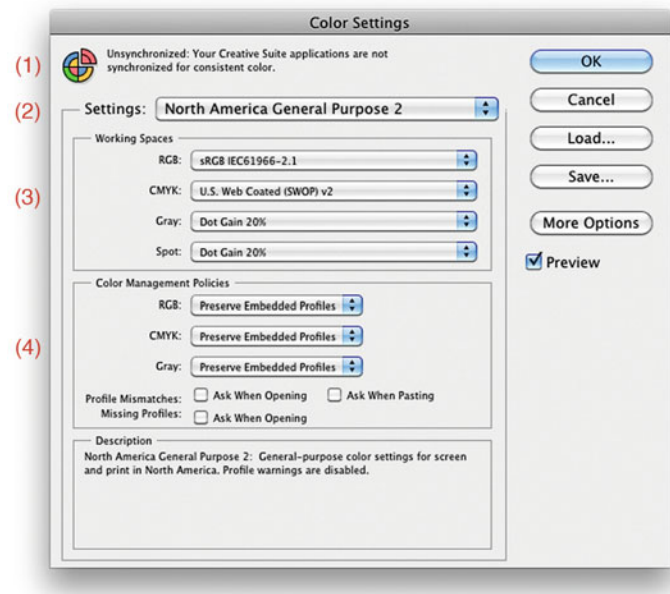
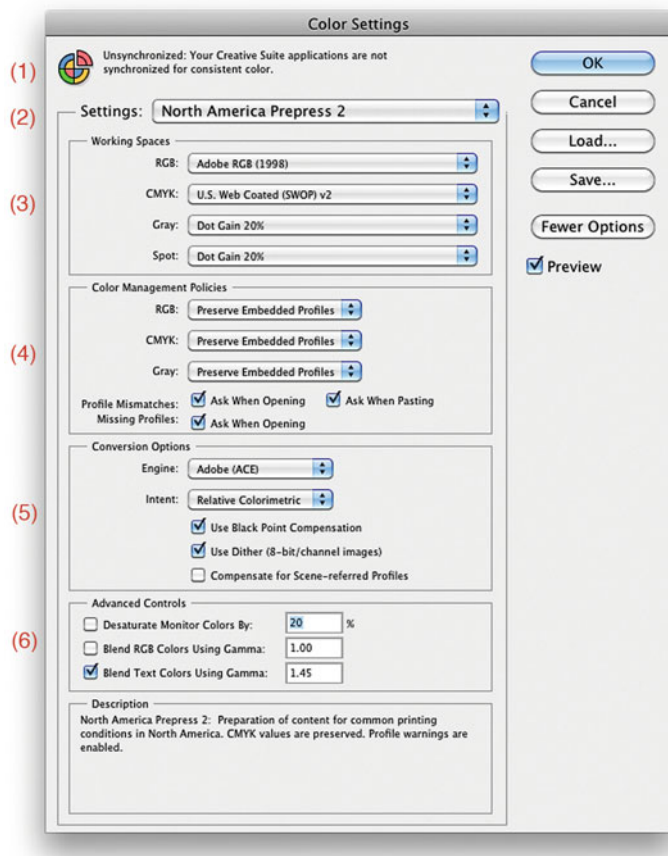

FIGURE 6.2 Default Color Settings in Adobe Photoshop – Few Options view.
FIGURE 6.3 North America Prepress 2 Color Settings in Adobe Photoshop – More Options view.
The **Color Settings** in all the *Adobe Creative Suite* applications, including Photoshop, but not Lightroom, control how color is handled in opening, pasting, viewing, and saving files and images. To launch the Color Settings window in Figure 6.2, go to the Menu bar in Photoshop and select Edit > Color Settings. With your choice of color settings, you determine the default working color spaces, the way color management is handled, and the way color conversions and mode changes are completed.
2. Next is a pull-down menu, which gives you a series of standard groups of color settings. Figure 6.2 shows the default settings, which are called **North America General Purpose 2**. If we alter any of the individual settings, this designation will change to **Custom**. Figure 6.3 shows these default settings changed to **North America Prepress 2**, which can be better settings for us
Did you know that Photoshop gives you the ability to create your own custom RGB color space? I'm not saying you should, because most probably you're going to be better off with one of the standard RGB working spaces, but you can. This ability in Photoshop is where color spaces like BruceRGB, JoeRGB, and TomRGB (no relation) have come from. How do you do it? With the **Color Space** window in the **More Options** mode, as in Figure 6.3, click on the **RGB** pull-down menu and drag to the top, where it says **Custom RGB . . .** The window in Figure 6.10 is launched. Here, as you can see, you would define the gamma, white point, and RGB primaries for a color space. Shown are the defined specifications of BruceRGB, which was created by the late Bruce Fraser to be an improvement over the gamut limitations of sRGB.
1. Color Management Policies—The choice of **North America Prepress 2** in the **Color Settings** window, Figure 6.3, results in the color management policies for Photoshop that turn on color management, preserve embedded profiles, and ask you what to do when profiles are not embedded (or don't match your defined working color spaces when opening or pasting images), which is helpful giving you control over how these files are color-managed.
Another exception to the **Color Settings** and policies in Figure 6.3 is that it is not always good to have Photoshop ask what to do when opening your images, if there is a missing or mismatched profile attached. If you are running automation, such as **Actions**, it is best to uncheck Ask When Opening. Since the reason for automation is to speed up repetitive tasks, stopping for the required dialog box could really slow things down for you.